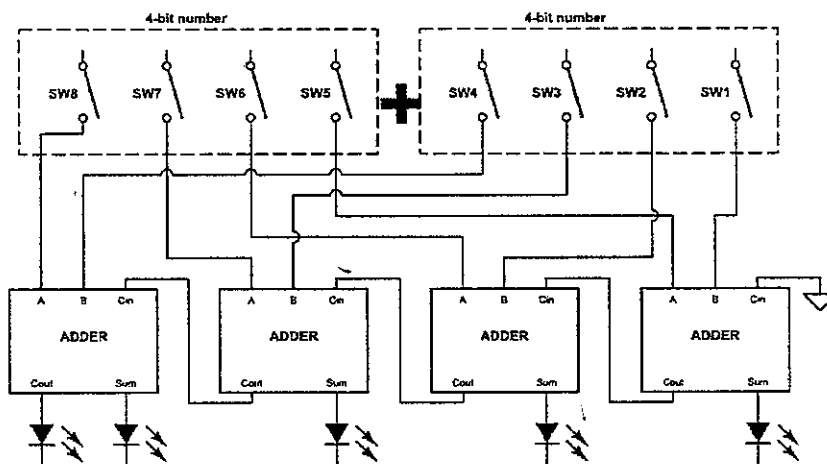

Figure 1 - 4-bit adder
1. Design a 4-bit adder (Figure 1) using standard XOR, AND, and OR gates.